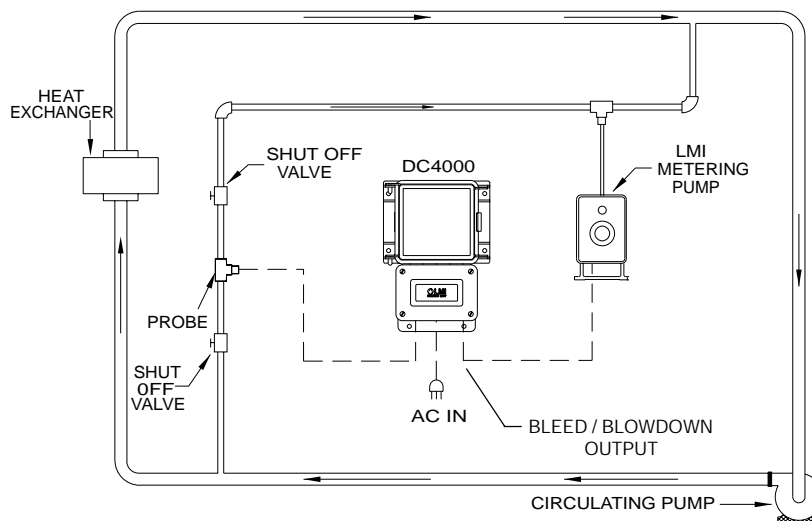

Figure 9: Closed Loop Installation
1. Check that the unit is installed as shown in Figure 9 on page 32.
Refer to Figure 9 below for location of components.